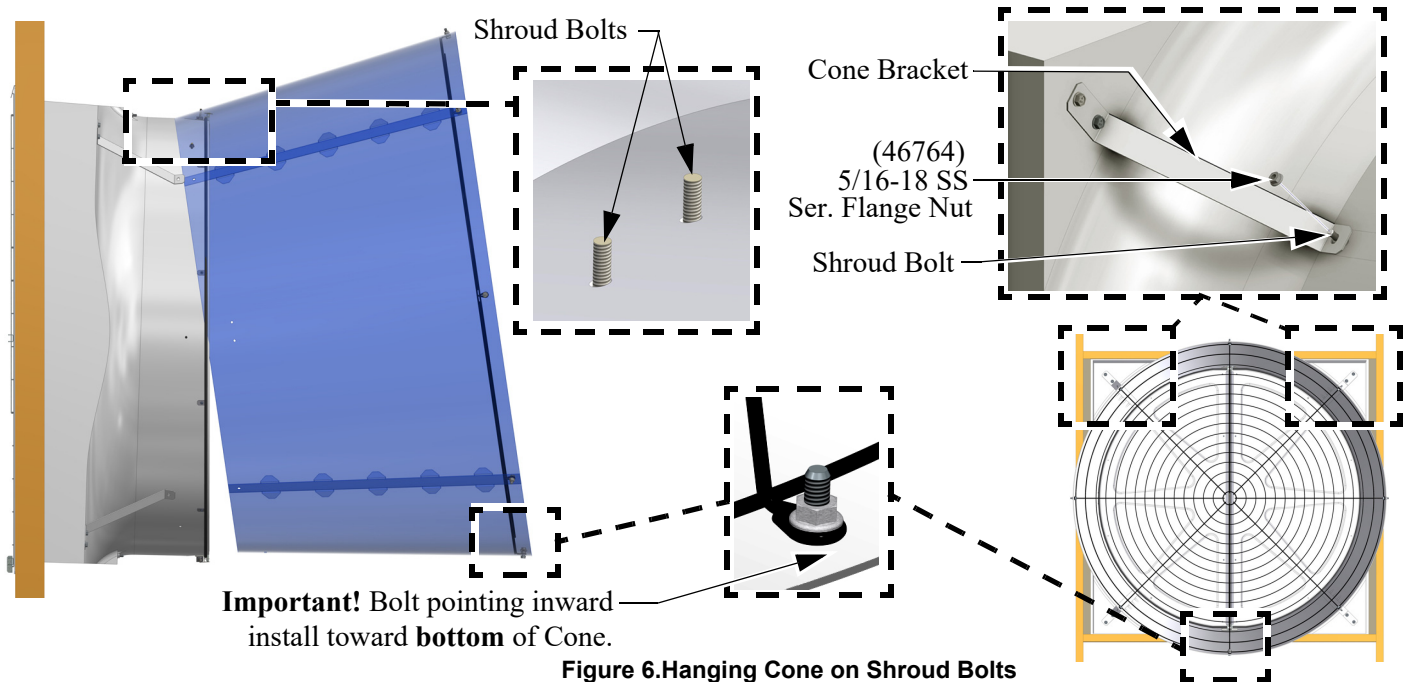

Figure 6. Hanging Cone on Shroud Bolts
2. Hang the Cone on the Cone Bolts as shown in **Figure 6**. Seams between Cone Panels should be oriented toward corners of Shroud **as shown**.
3. Secure the Cone by attaching the Top (2) Cone Brackets to the Bolts in the Cone with additional 5/16-18 Nuts (**46764**) **as shown**.